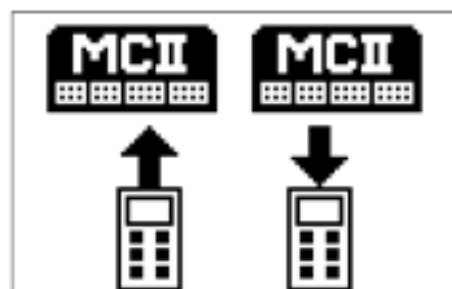

Figure 16 - Copy set of parameter set
- Select the "Control" → "Parameter" → "Copy parameter" menu item. Afterwards, the display will show the graphics that you can see in Figure 16.
- Press function key 2 to transfer the settings for the control to the memory of the hand switch.
- Select the "Control" → "Parameter" → "Copy parameter" menu item. Afterwards, the display will once again show the graphics that you can see in Figure 16.
- Press function key 1.